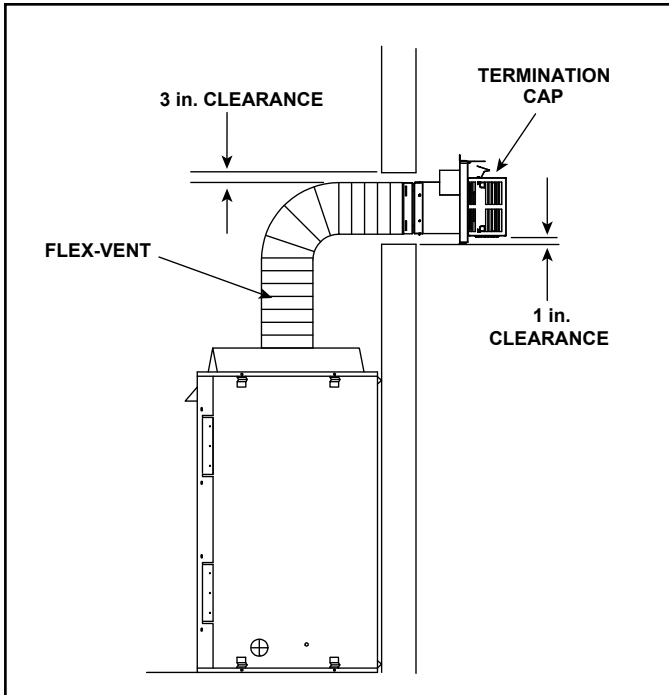

Figure 4.8 Flex Vent Pipe - Generic Fireplace Shown
A support is required at each change in venting direction, and in any location where it is necessary to maintain the necessary clearance to combustibles. A simple “up and out” installation (Figure 4.8) requires only enough support to maintain the necessary clearance to combustibles. However, the vent attachment point and the firestop location are considered to be supports.
****Note:** When using **SLP-FLEX (6-5/8 in.)** venting, there **MUST** be a 25% reduction in total H when using flex vent. See Figure 4.8.
****Note:** When using **SLP-FLEX (6-5/8 in.)** venting, there MUST be a 25% reduction in total H when using flex vent. See Figure 4.8.